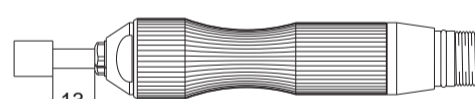

Fig. 1
- Do not exceed 13mm of overhang for mounted grindstones as shown in Fig. 1. If the overhang must exceed 13mm, reduce the motor speed in accordance with Table 1.